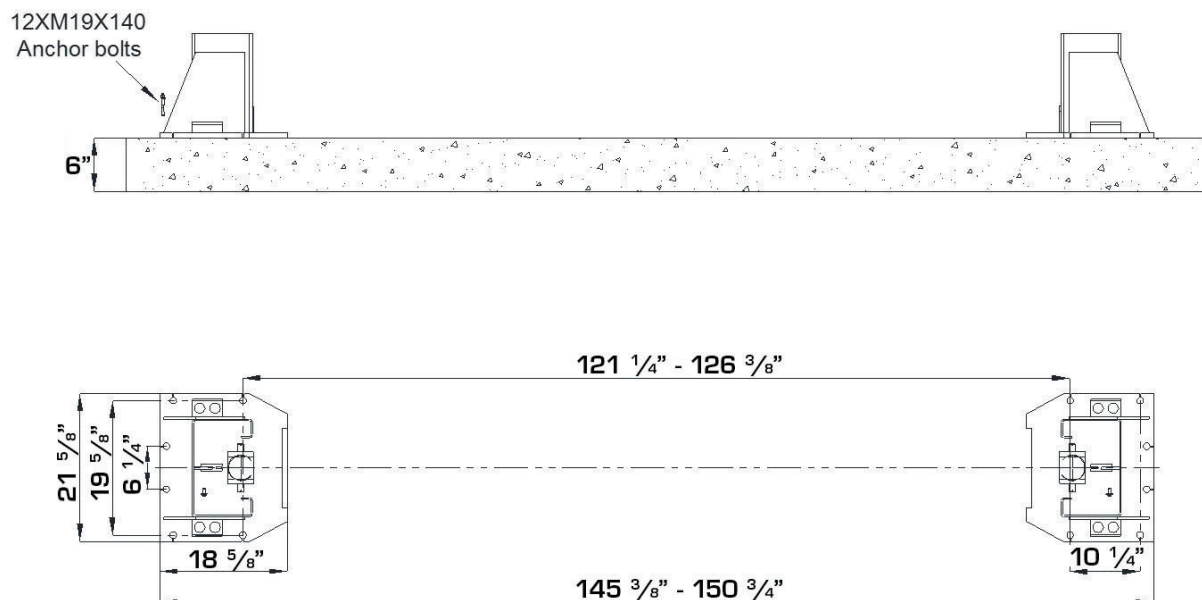

Figure 8 - Floor Plan
- Now locate the lift according to the floor plan the figure 8, use a carpenter's chalk line to layout a grid for the column locations.